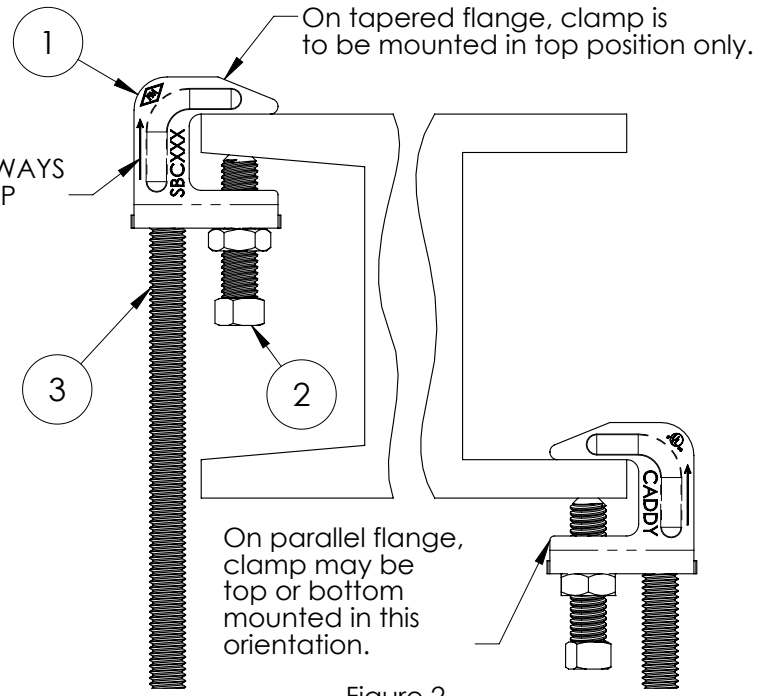

Figure 2
1. Position Clamp on top flange of beam per Figure 2.